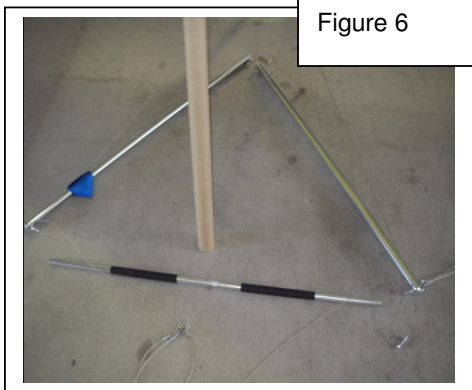

Figure 6
11. Lower both down tubes down onto a flat non scratch surface, as per figure 6.